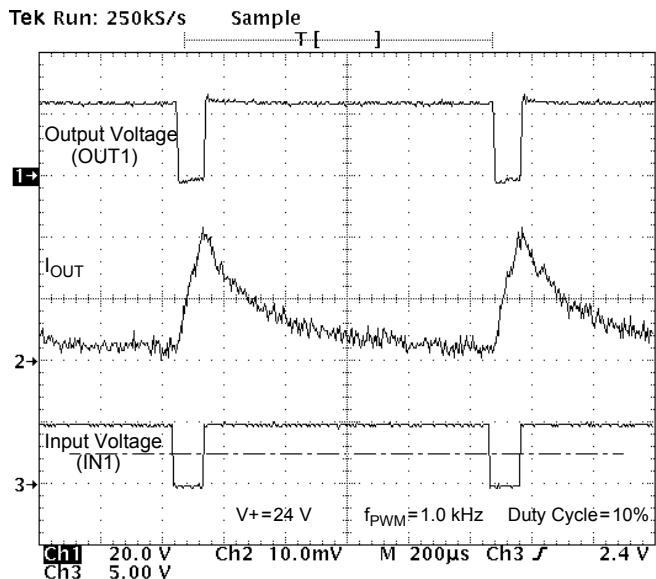

Figure 11. Output Voltage and Current vs. Input Voltage at $V_+=24$ V, PMW Frequency of 1.0 kHz, and Duty Cycle of 10%
20. The outputs can be PWM controlled from an external source. This is typically done by holding one input high while applying a PWM pulse train to the other input. The maximum PWM frequency obtainable is a compromise between switching losses and switching frequency. Refer to Typical Switching Waveforms, Figures 11 through 18, pp. 12–13.